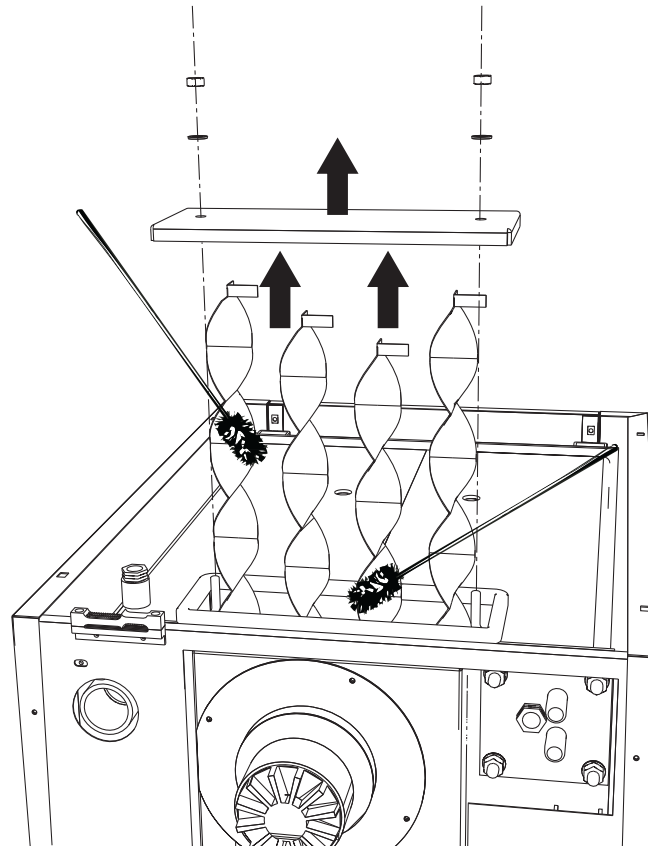

fig. 6 - Fume duct cleaning
- Open the inspection door at the back of the boiler (see fig. 6).